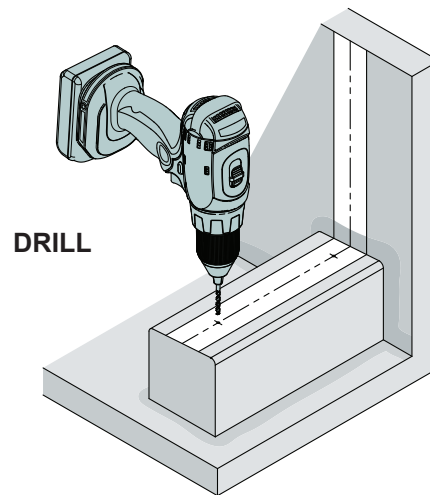

Figure 6
2. Drill all the marked holes and remove the masking tape. (Figure 6)